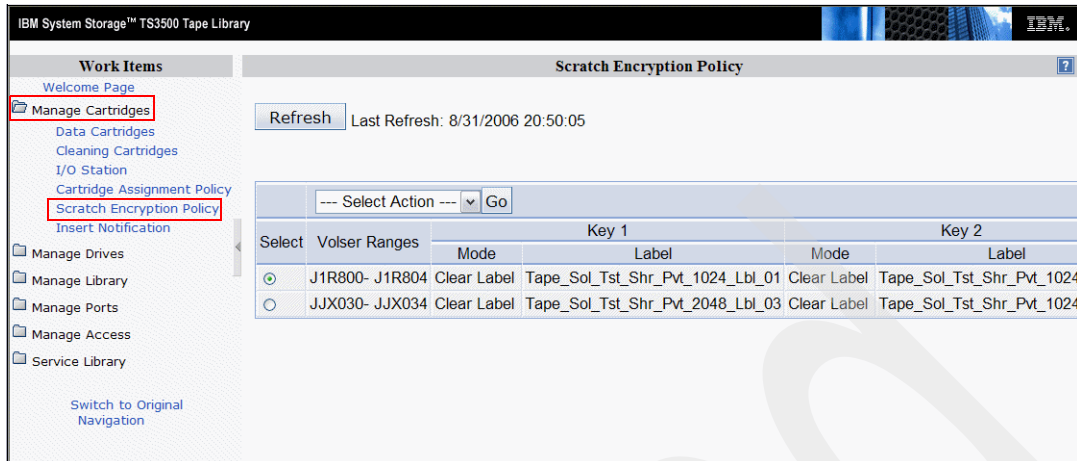

Figure 6-79 Scratch encryption policy
- In the left panel, select **Manage Cartridges** → **Scratch Encryption Policy**. Figure 6-79 on page 191 shows two “Volser” (volume serial) ranges of cartridges that are already defined. Select **Create** from the Select Action menu, and click **Go**.